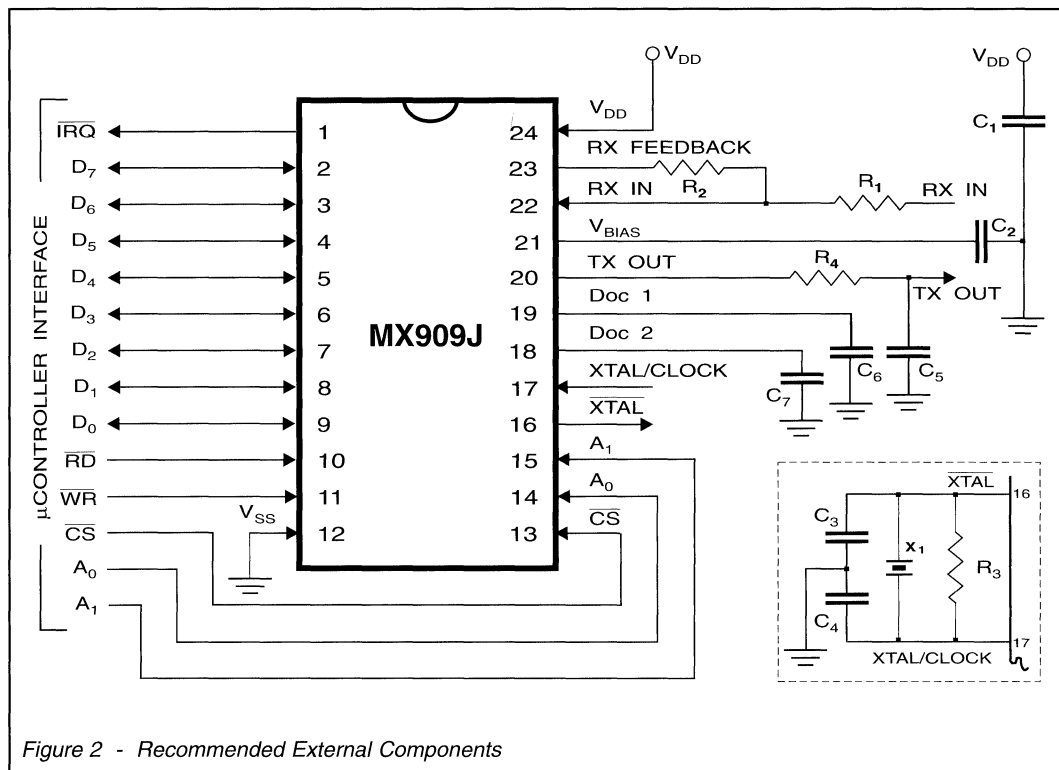

Figure 2 - Recommended External Components
19	Doc 1: described in Figure 2 should be installed between each of these pins and V_{SS} .
- If the on-chip Xtal oscillator is to be used, then the external components X_1 , C_3 , C_4 , and R_3 are required as shown in Figure 2 (inset).